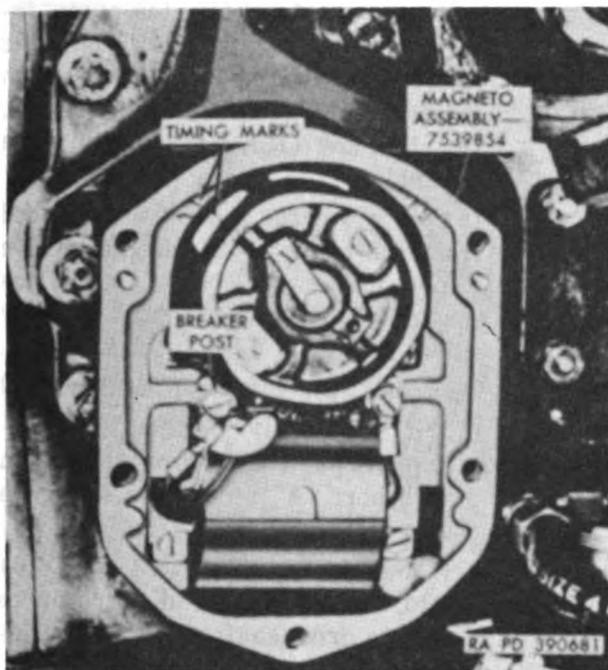

Figure 181. Magneto timing marks (early model AOSI-895-5M engines only).
- (3) If engine is early model AOSI-895-5M engine equipped with early model Bendix Scintilla magneto assembly 7539854, remove hex-head lockwasher screws and remove covers and gaskets. Aline timing marks on magneto as shown in figure 181.
NOTE: On magneto assembly 7539854 only, clip positive leads to magneto breaker posts (fig. 181).